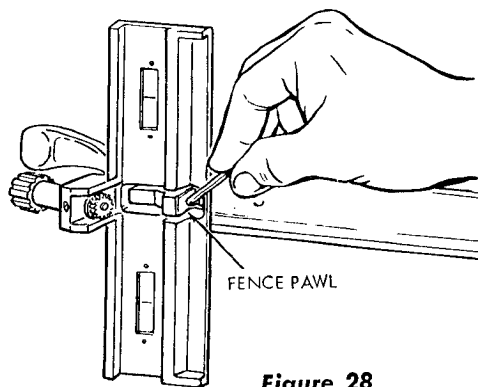

Figure 28
- (1) Remove the fence and turn it over. Then, with a 1/8 inch hex-“L” wrench, loosen the pawl set screw (located just behind the fence pawl) approximately two turns. (See figure 28.)